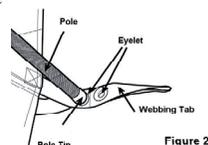

Figure 2
4. Starting with the centre crossing poles, insert one end into the eyelet in the webbing tab at the base of and nearest to the flysheet (the other is for the peg) and repeat with the opposite end, by grasping the webbing tab firmly and pushing the pole through the sleeve (see figure 2). To achieve this, the pole sleeves must be eased over the poles, especially over the metal joints or ferrules. This initial process will be greatly eased if the flysheet is lifted and supported from inside.